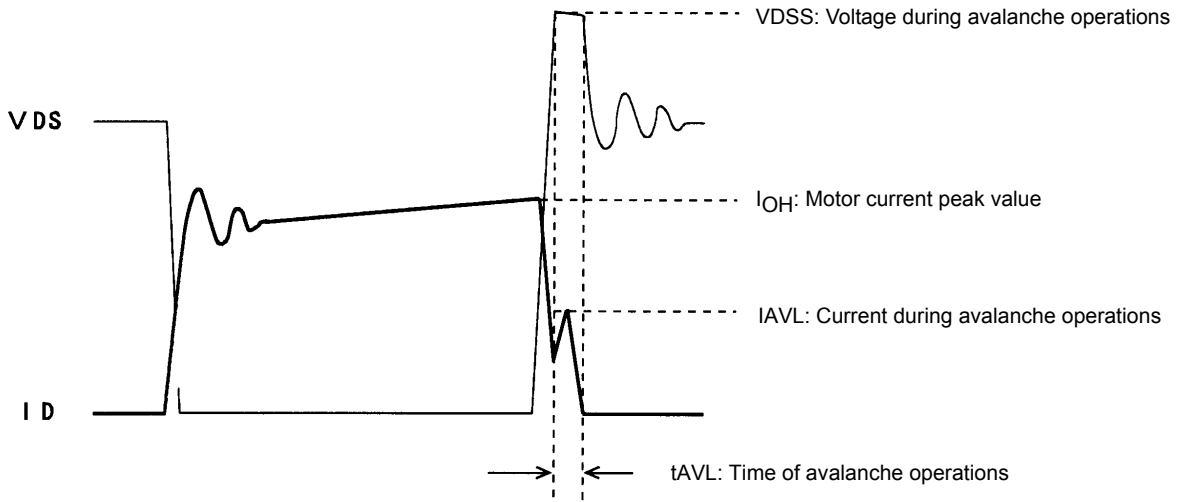

Figure 1. Output Current,  $I_D$ , and Voltage,  $V_{DS}$ , Waveforms 1 of the STK672-7\*\* Series when Driving a 2-Phase Motor with Constant Current Chopping
When driving a 2-phase Stepper motor with constant current chopping using an STK672-7\*\* Series IPM, the waveforms shown in Figure 1 below result for the output current,  $I_D$ , and voltage,  $V_{DS}$ .
Although the waveforms during avalanche mode are given in Figure 1, sometimes an avalanche does not result during actual operations.
- Increases in  $V_{DSS}$ ,  $t_{AVL}$ , and  $I_{AVL}$  in Figure 1 due to an increase in the supply voltage from 24 V to 36 V.
If the factors above are negligible, the waveforms shown in Figure 1 become waveforms without avalanche as shown in Figure 2.